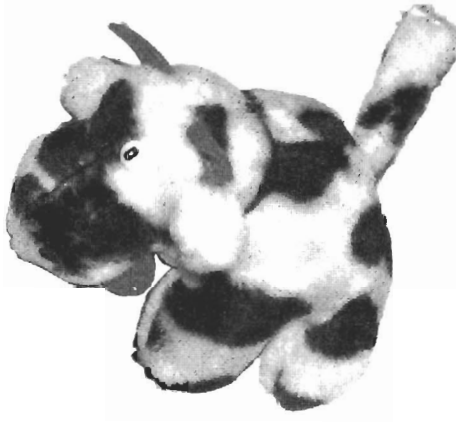
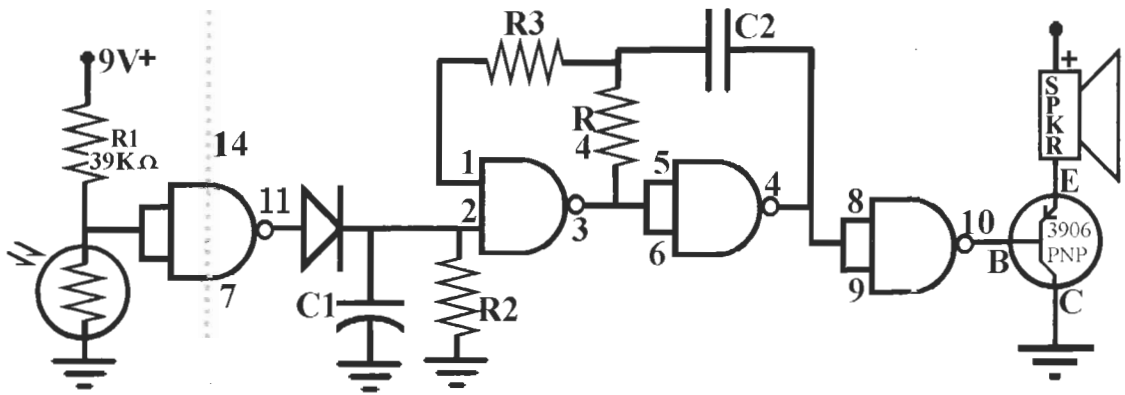

Figure L30-30
Figure L30-31
This is definitely a young man's idea of fun. An MPG file on the Web site [www.books.mcgraw-hill.com/authors/cutcher](http://www.books.mcgraw-hill.com/authors/cutcher) shows the real action of this fun toy. Words simply don't do it justice. A picture is shown in Figure L30-30. The related schematic is displayed in Figure L30-31 (Table L30-6).
**Table L30-6** Related to schematic displayed in Figure L30-31